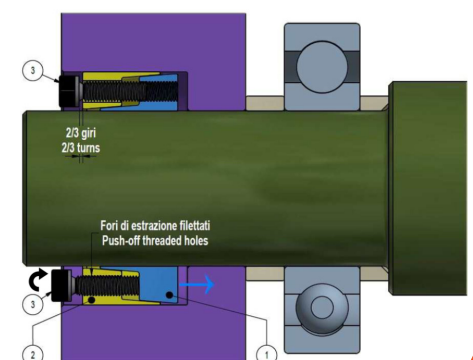

Fig. 4
2. Loosen all screws by two/three turns; then transfer some screws into all push-off threaded holes in the outer ring. **Progressively tighten these screws in a crosswise pattern, using approx. ¼ turns for several passes** until the inner ring is released (fig. 4). Start with a screw located at 90° approx. respect to slit; screws adjacent to slit shall be tightened in a row.